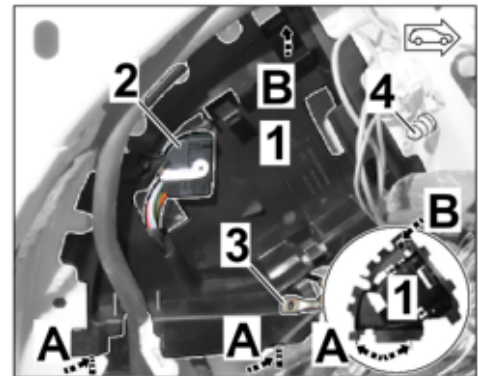

Figure 12
2.4.2 Insert pins (2 x on underside of control unit bracket) into the body (⇒ *Figure 12 -A-*)
2.4.3 Clip trailer hitch control unit bracket at the top into the web plate on the body (⇒ *Figure 12 -B-*).